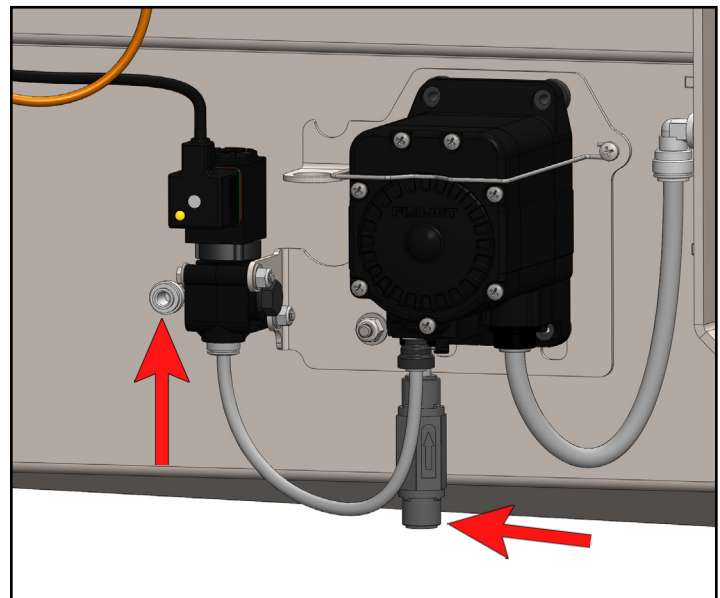

Fig. 26.2: Air and solution inlets
1. Connect compressed air (40 psi min.) to solenoid valve quick fitting inlet using 3/8" LDPE tubing or similar [Figure 26.2].
2. Connect solution source to check valve of pump inlet using 3/8" clear LDPE tubing (included) [Figure 26.2].